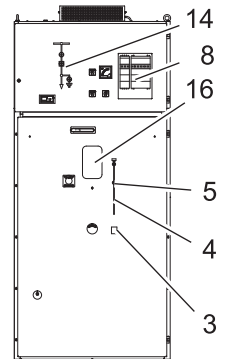

Fig. 37
- ➡ • Ensure that the circuit breaker is in the OFF switch position (see description for Fig. 37). Otherwise the circuit breaker cannot be positioned